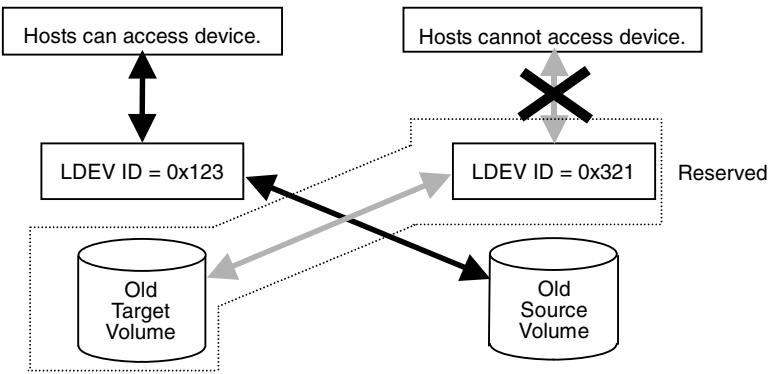

Figure 8 Data Flow after an Auto LUN Operation
- Transfer host access to the target volume to complete the migration (see Figure 8 on page 16).